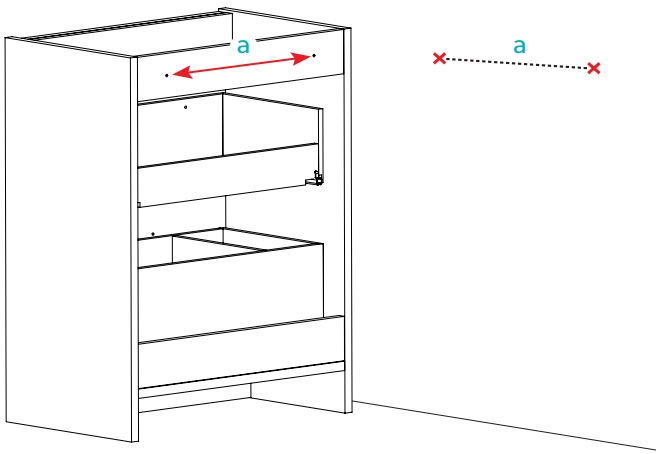

Fig. 1
2. Mark the drill location onto the wall through the pre-drilled holes in the rear cross rail of the unit. *See Fig. 1.*